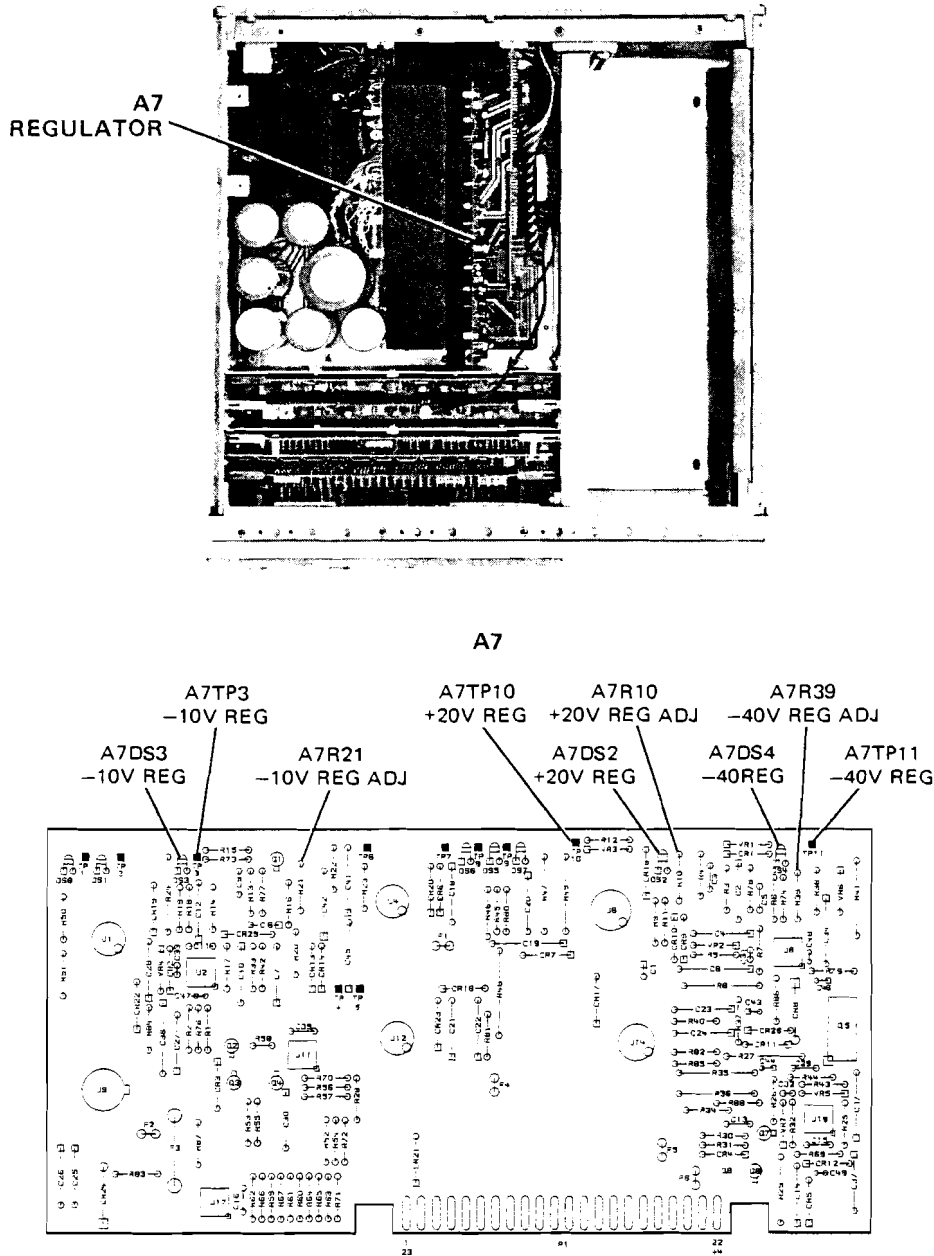

Figure 5-2. Location of +20V, -40V, and -10V Power Supply Adjustments.
4. Connect the DVM to the bottom of the A9 Motherboard connector A9J2 pin 7 (+20V RETURN SENSE) and A9J2 pin 6 (+20V SENSE). A7DS2 (green LED) should be lit. Refer to Figure 5-2 for A7 Regulator component locations.
5. Adjust A7R10 +20V ADJ for a DVM reading of 20.000 ± 0.001 Vdc. Refer to Figure 5-2 for adjustment location.
6. Connect the DVM to the bottom of the A9 Motherboard connector A9J2 pin 16 (-40V RETURN SENSE) and A9J2 pin 15 (-40V SENSE). A7DS4 should be lit. Refer to Figure 5-2 for A7 Regulator component locations.
7. Adjust A7R39 -40V ADJ for a DVM reading of -40.000 ± 0.002 Vdc. Refer to Figure 5-2 for adjustment location.
8. Connect the DVM to the bottom of the A9 Motherboard connector A9J2 pin 12 (-10V RETURN SENSE) and A9J2 pin 11 (-10V SENSE). A7DS3 should be lit. Refer to Figure 5-2 for A7 Regulator component locations.
9. Adjust A7R21 -10V ADJ for a DVM reading of -10.000 ± 0.001 Vdc. Refer to Figure 5-2 for adjustment location.